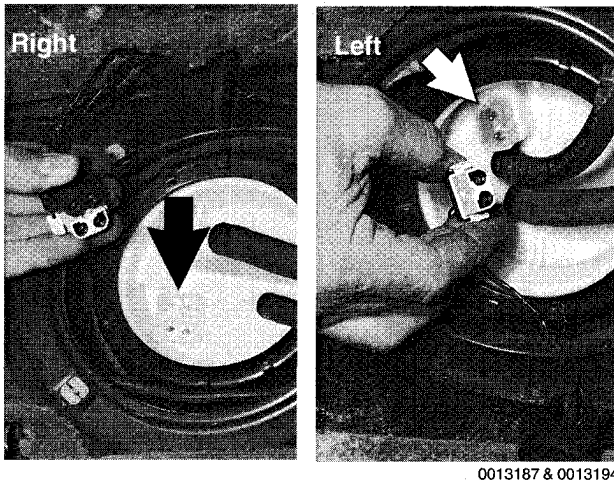

Fig. 6. Fuel pump/level sender terminal identification. Check resistance at terminals of white connectors (arrows).
2. Disconnect white plug on each sending unit. See Fig. 6.